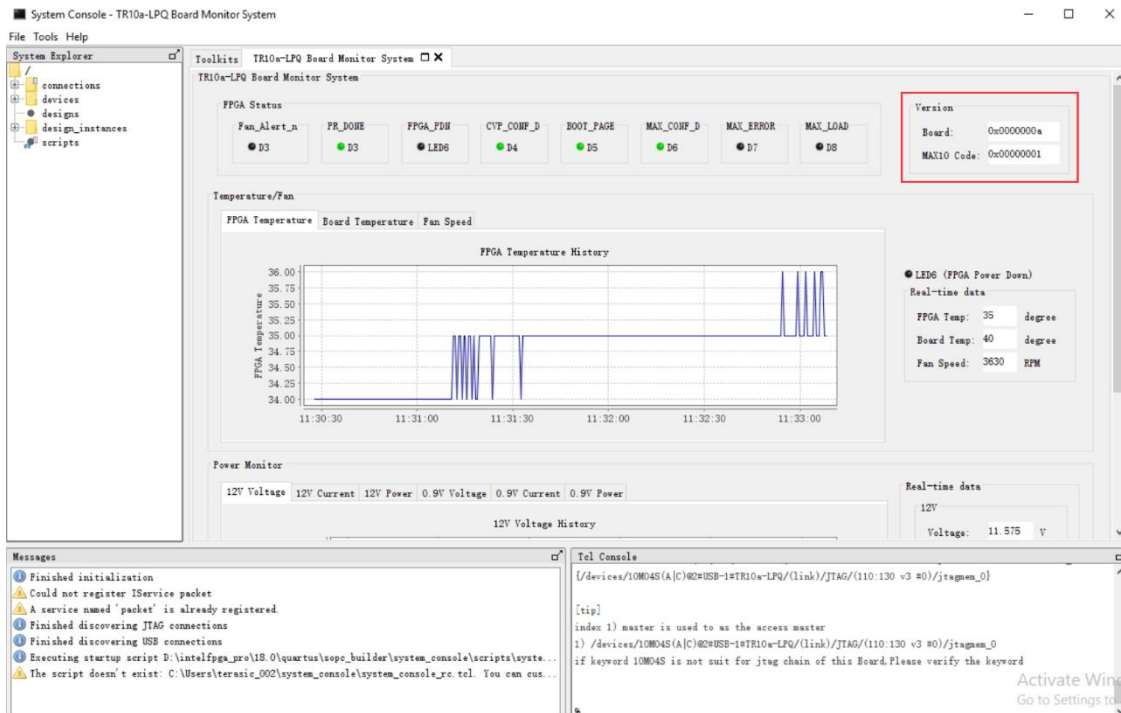

Figure 8-5 Version Section
- **Version:** It will show the version of the TR10a-LPQ board and the Temp code in the system controller (MAX 10), as shown in **Figure 8-5**.